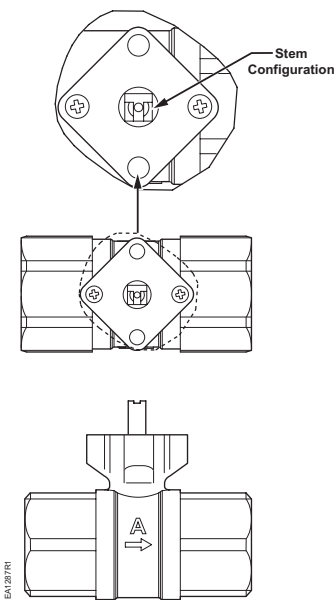
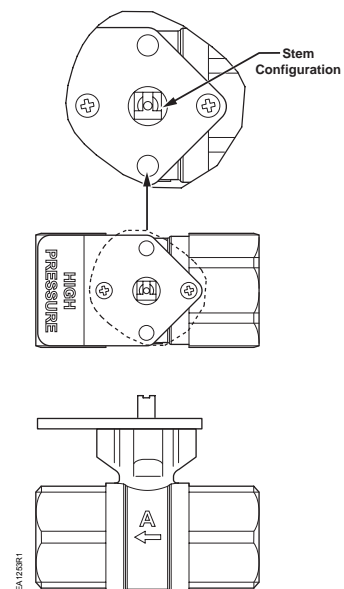

Figure 1. New Configuration, Uses the M4 × 0.7 × 50 mm Screws.
Figure 2. Old Configuration Uses the M4 × 0.7 × 53 mm Screws to Accommodate the Yellow Mounting Plate.
Make sure the ball valve is in the fully open position with the valve stem in the orientation shown (See Figure 1 and Figure 2).
- b. **Installed Valves** – See Figure 1 or Figure 2 to check the stem position with respect to the flow arrow.
- b. **Installed valves** - See Figure 1 or Figure 2 to check the stem position with respect to the flow arrow imprinted on the valve.